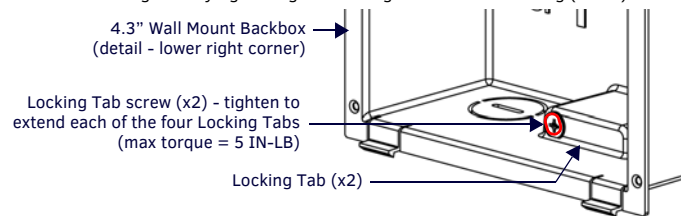

FIG. 3 BACKBOX - LOCKING TAB AND LOCKING TAB SCREW (X2)
5. Extend the Locking Tabs by tightening the Locking Tab screws until snug (FIG. 3):